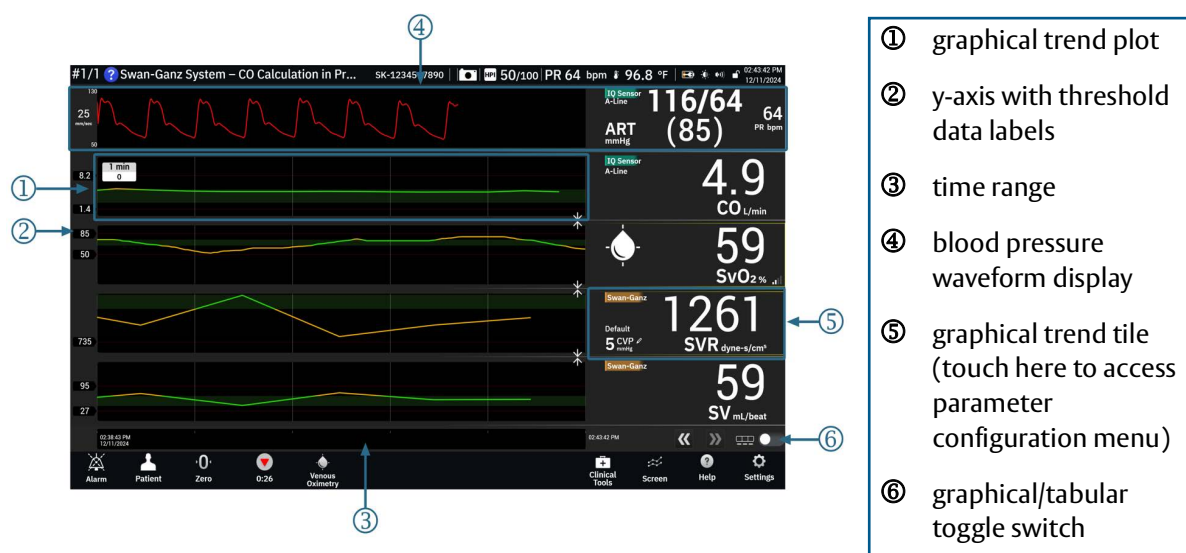

Figure 4-3 Graphical trend screen
The main features of the graphical trend screen are outlined in figure 4-3 and below.
The colors match those of the clinical target indicator (parameter tile outline) on the key parameter tiles in the graphical trend graph when targets are enabled for the parameter. The alarm limits for each parameter are displayed as numerical values on the graph y-axis. See ② in figure 4-3 on page 81.